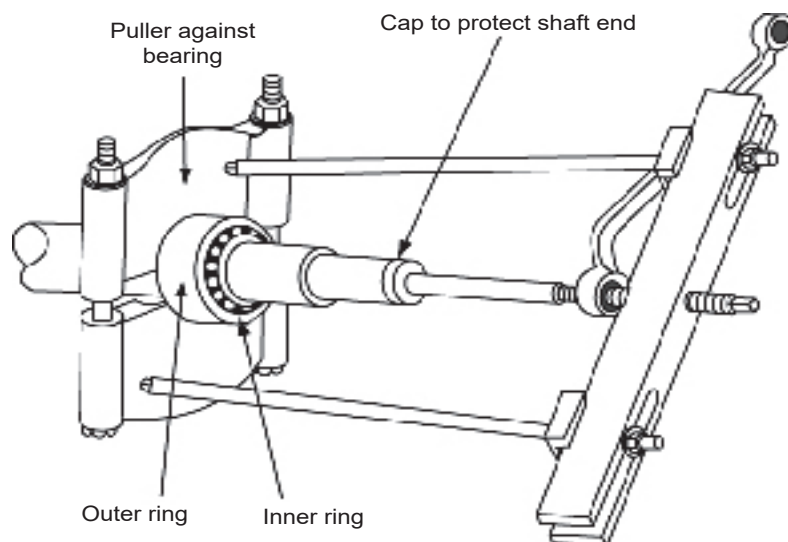

Figure 31: Pulling the bearing
2. Use a puller to remove the bearing from the shaft end with a cap (see Figure 31). Replace it with a new bearing.